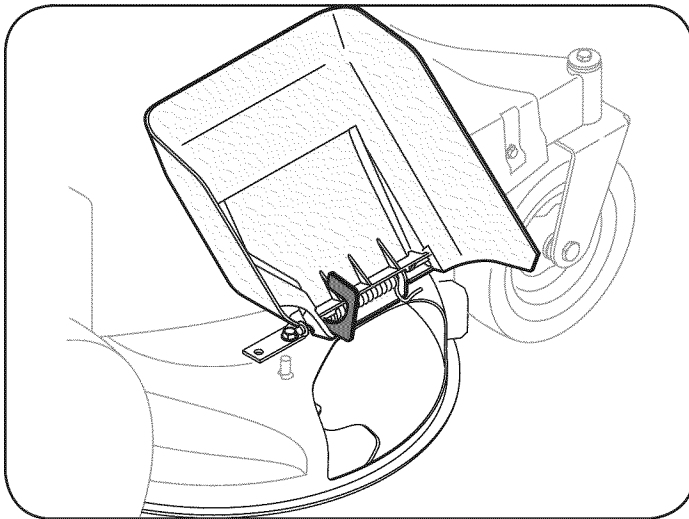

Figure 1
1. Locate the shipping brace, if present, found on the right side of the cutting deck. See Figure 1.